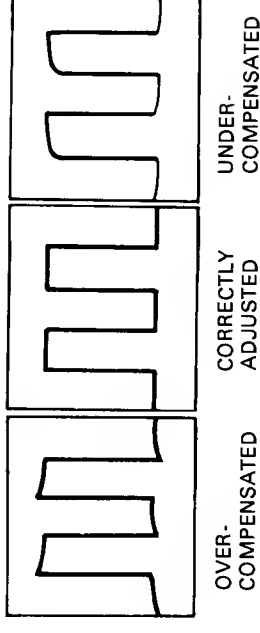

Figure 3. *Divider Probe Adjustment Display*
7. Adjust divider probe compensation for correct display (see figure 3).